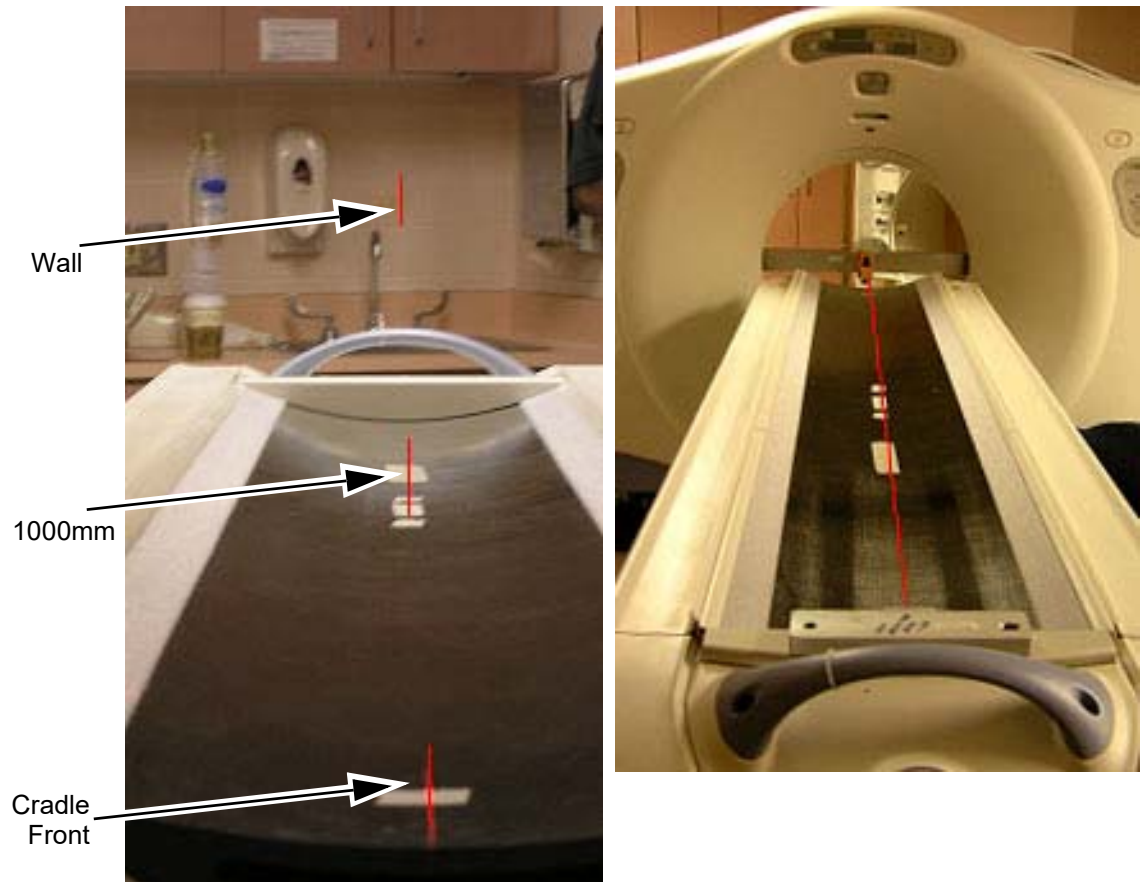

Figure 1-37 Alignment Laser Marks - Table & Wall
- 7.) The laser beam should now connect the cradle front centerlines, the 1000 mm cradle center line, onto the rear alignment tool vertical center and finally onto the alignment centering mark placed on the wall. The centering alignment line on the wall is used to be sure the laser is still centered. If the alignment line on the wall is NOT on the original mark, readjust the laser and repeat the above steps. See Figure 1-37.